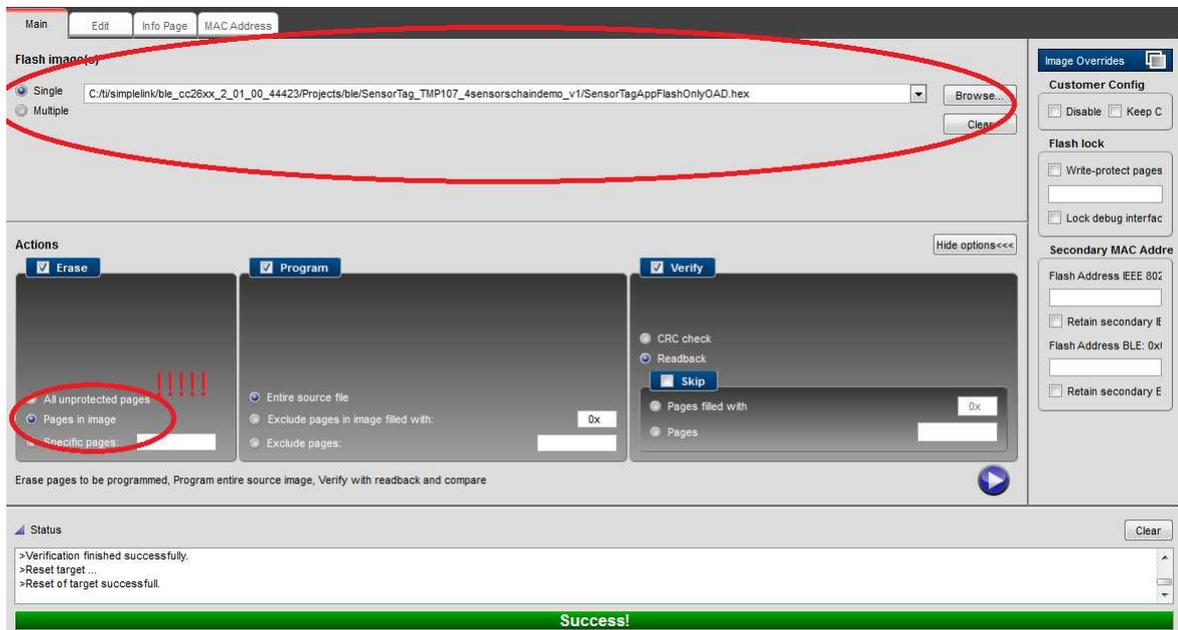

Figure 7: SmartRF Flash Programmer 2 interface
- a. In main tab, select in “Flash image(s)” **section** “Single” **option** and browse for the application hex file SensorTagAppFlashOnlyOAD.hex as described in figure 7.